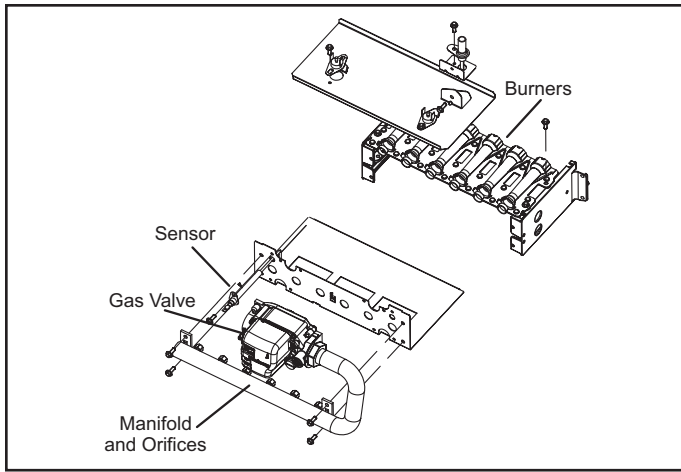
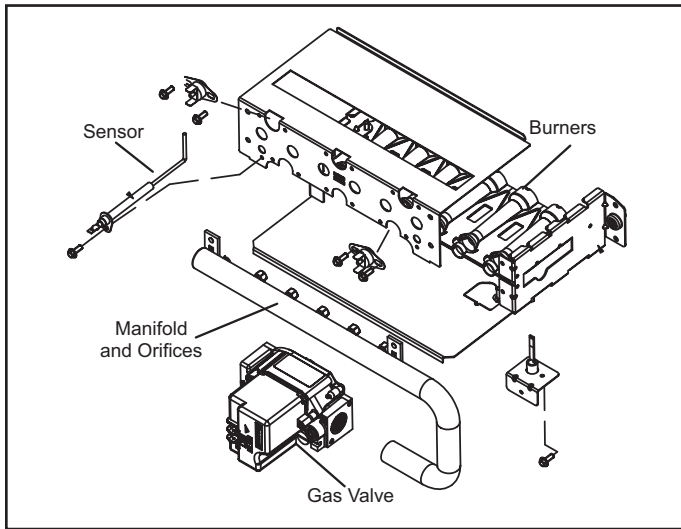

Figure 2. 80% Manifold Gas Valve Assembly
Figure 3. 90% Manifold Gas Valve Assembly
5. Replace the burner orifices with those provided. Torque to 75-90 in-lbs. Do not use thread sealant. Figure 2 and Figure 3 show manifold/gas valve assembly.